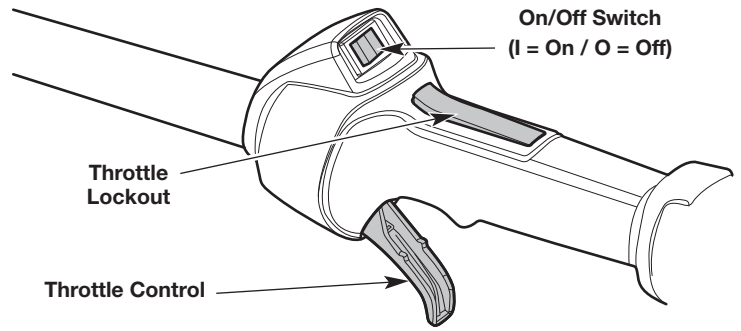

Fig. 7
**NOTE:** There is no need to turn the unit on. The On/Off switch is in the **On (I)** position at all times (Fig. 7).
**NOTE: DO NOT squeeze the throttle control (Fig. 7) until step 6.**
6. Press and hold the throttle lockout (Fig. 7). Squeeze the throttle control as needed for operation (Fig. 7).
2. Press and hold the On/Off switch in the **Off (O)** position until the engine comes to a complete stop (Fig. 7).
**NOTE: DO NOT squeeze the throttle control (Fig. 7) until step 8.**
8. Press and hold the throttle lockout (Fig. 7). Squeeze the throttle control as needed for operation (Fig. 7).